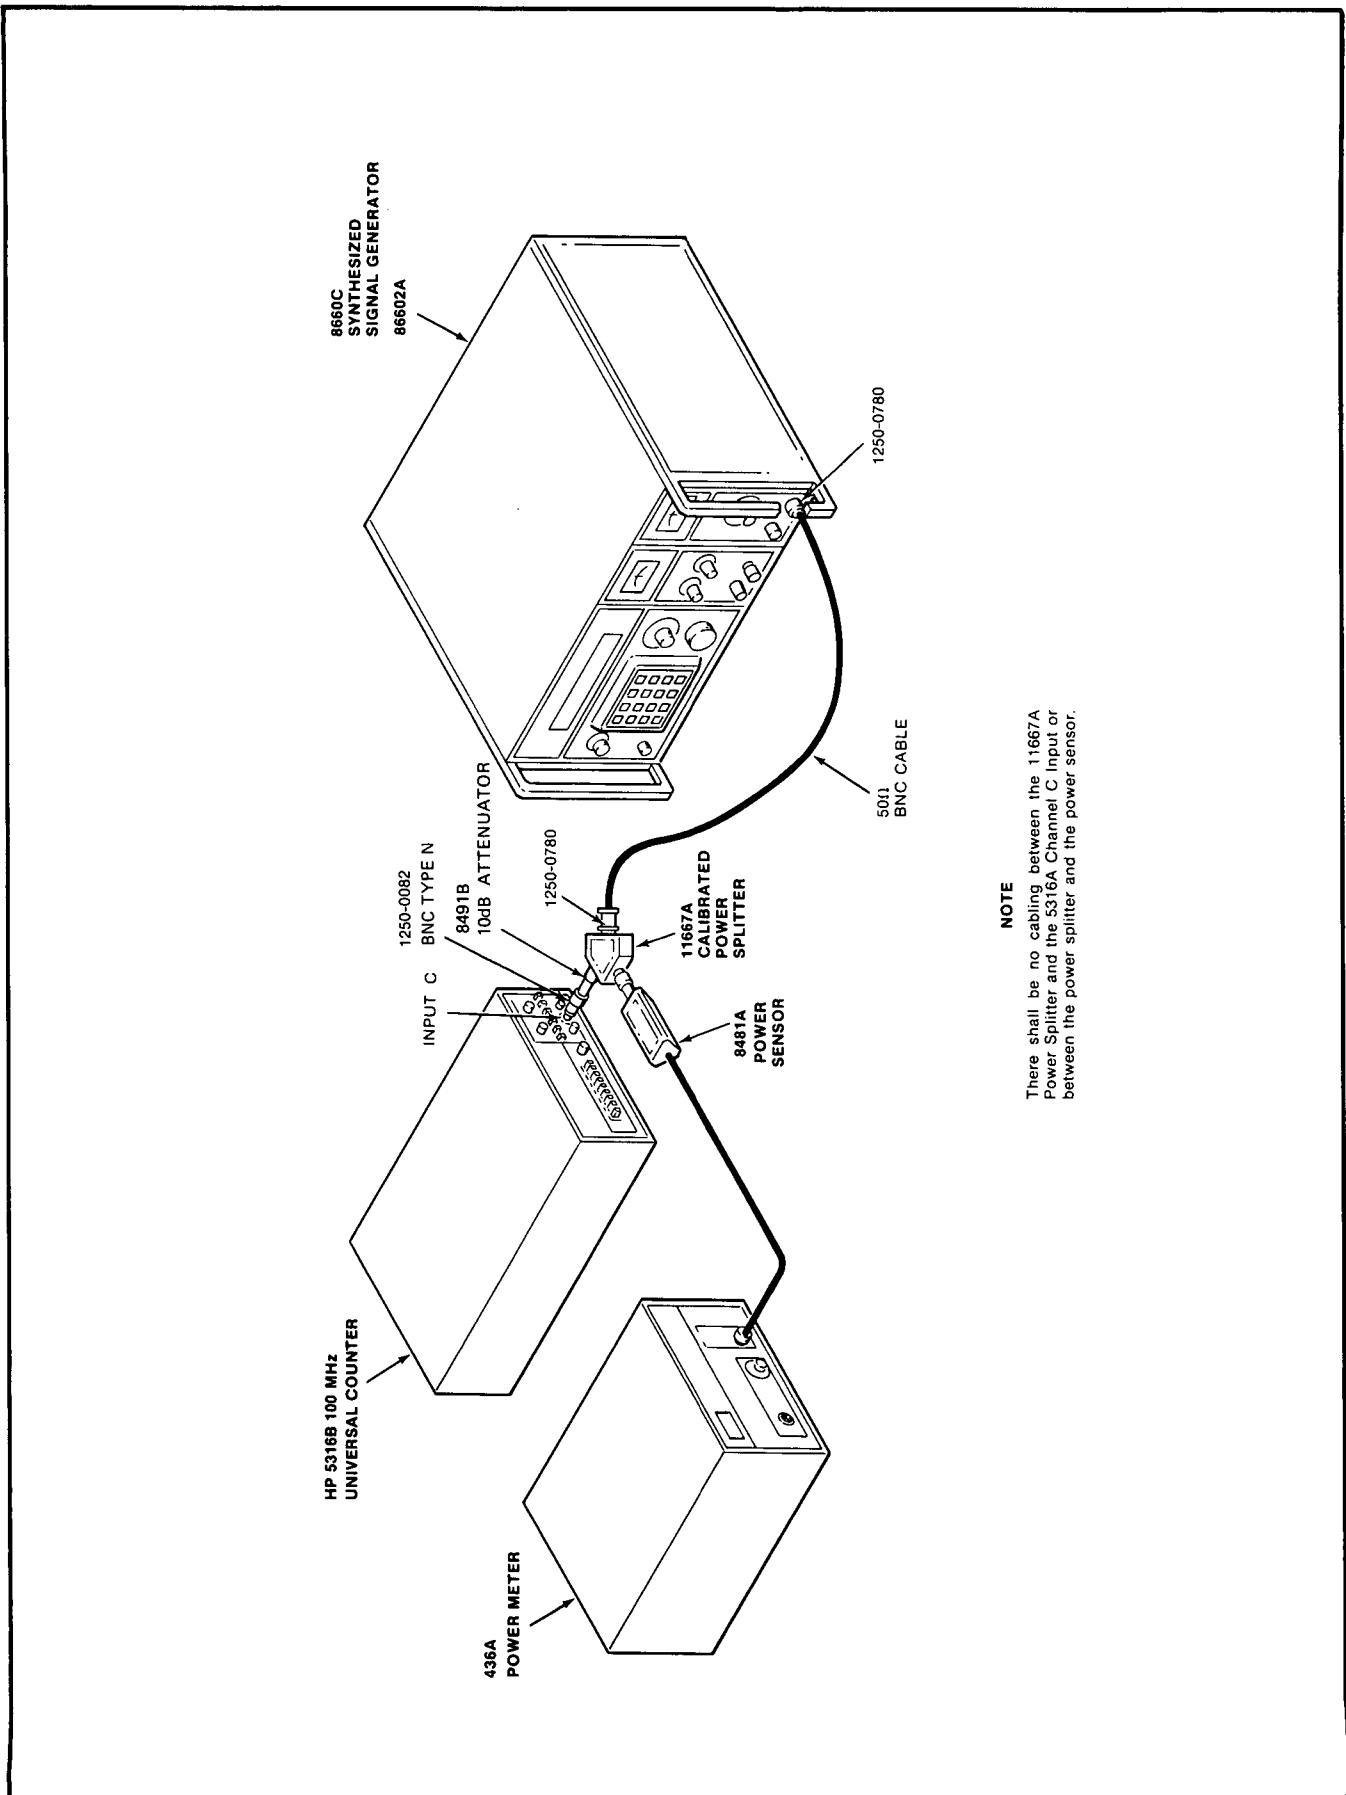

Figure 4-1. Channel C Test Setup
- c. Connect the HP 8660C/86602A Synthesized Signal Generator, the HP 436A Power Meter, and the HP 5316B as shown in Figure 4-1.